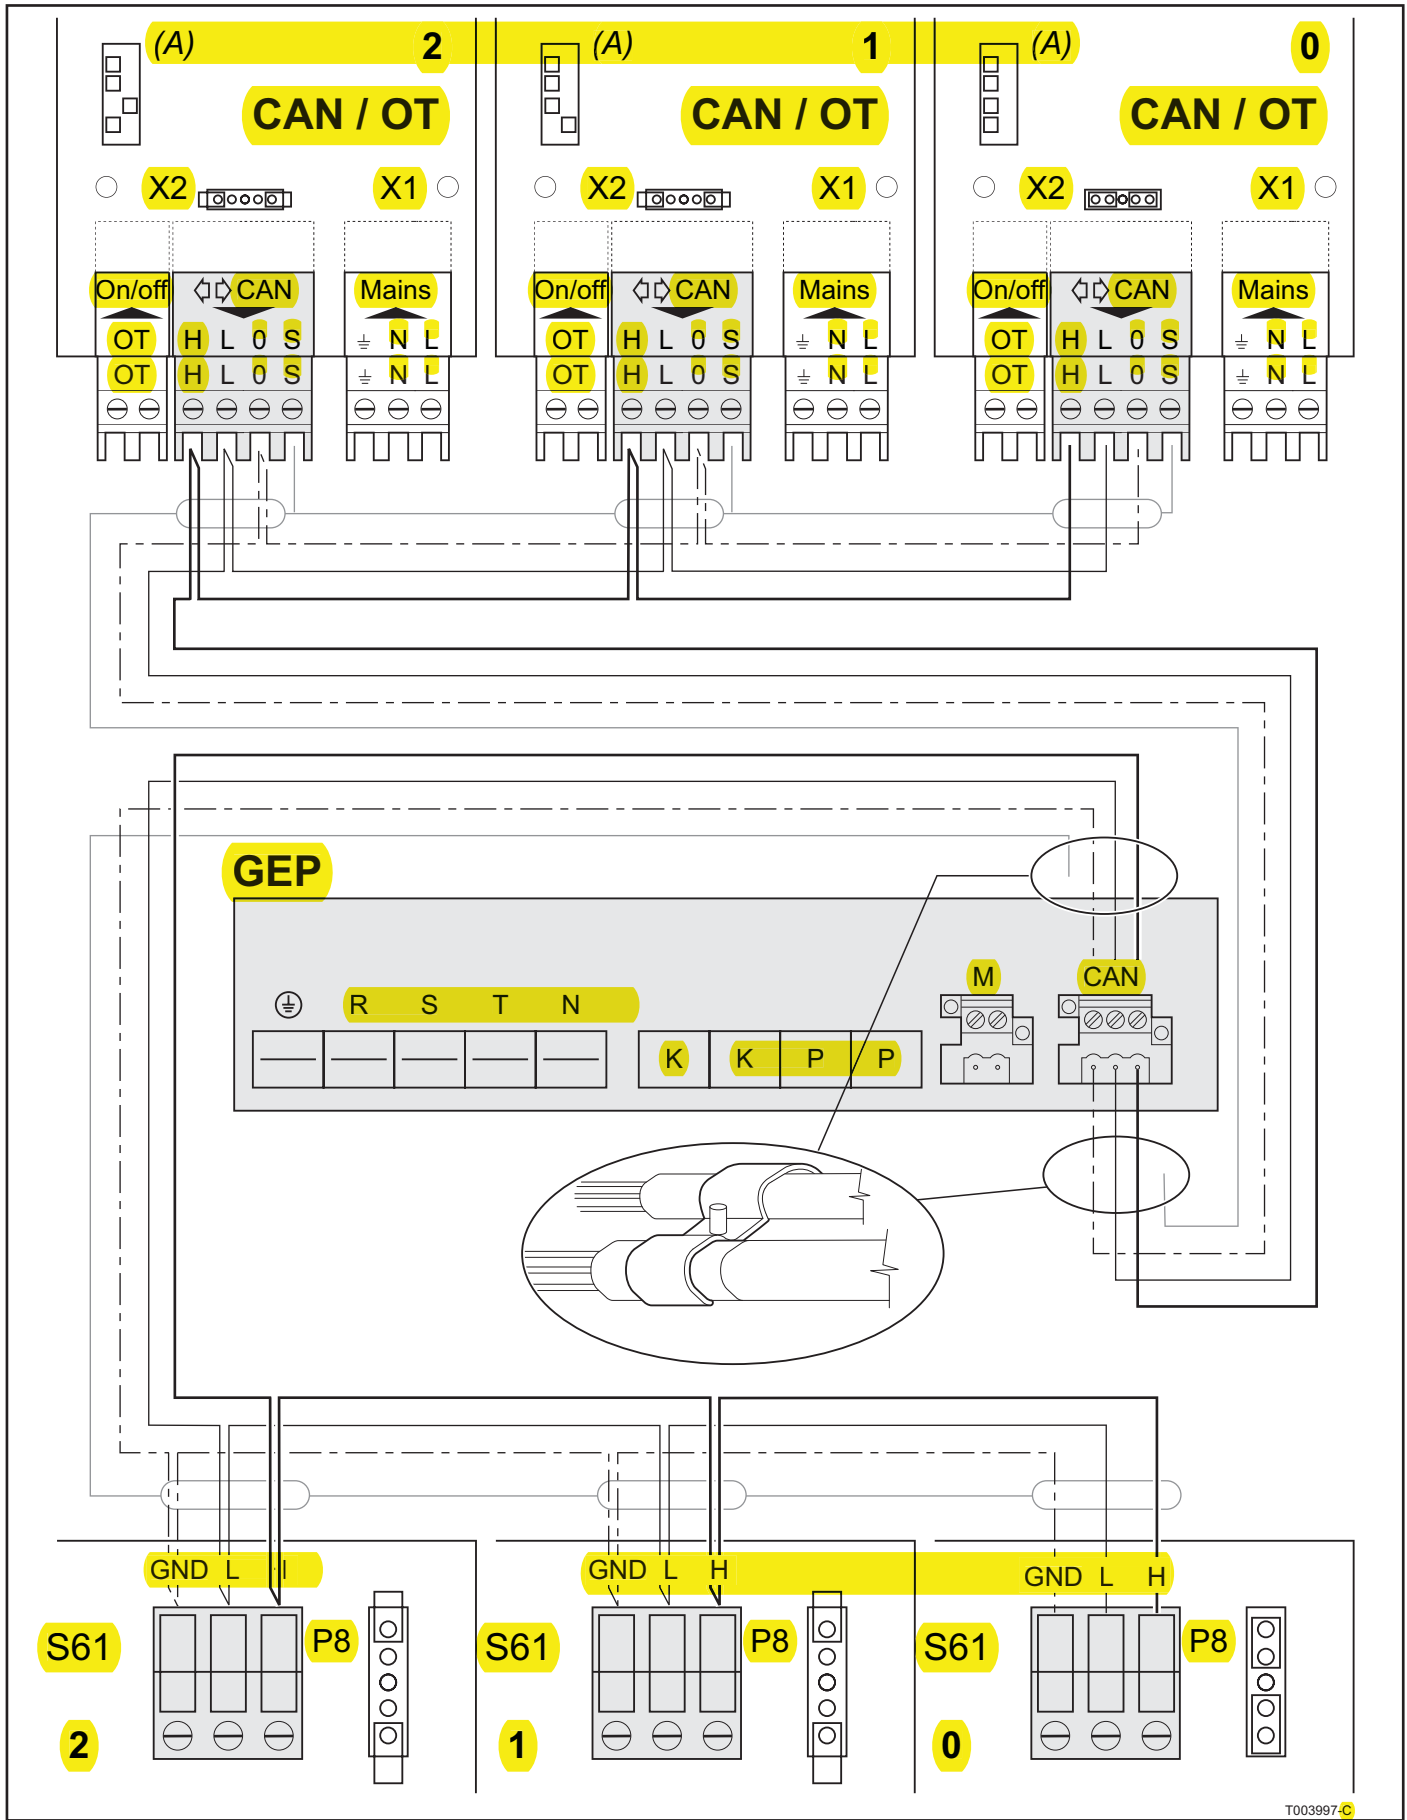

Fig. 31 Example of a one skid CAN-bus configuration
7. CAN/OT is an end node. Connect the cable to connector **X2** as indicated for the interface with address 0 in Fig. 31. Pay attention to the marks on the connector where **GND** needs to be connected to **0**.
8. The CAN/OT interface is an intermediate node. The **HL0S** connections will all have two wires connected; one wire for the incoming signal and one wire with the same colour for the outgoing signal (see the interfaces with addresses 1 and 2 in Fig. 31).